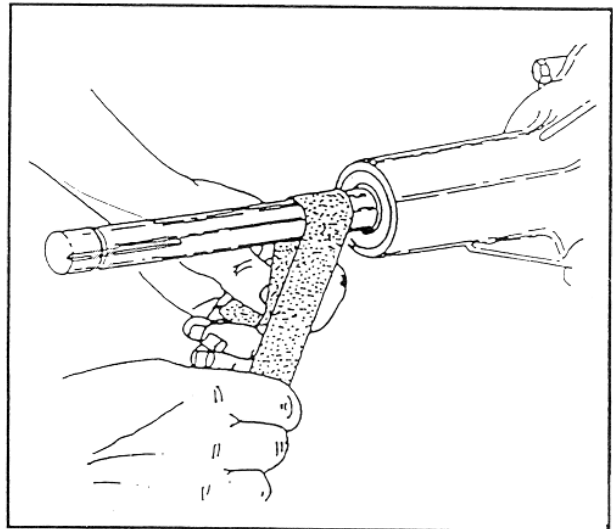

FIGURE 7
- 5.02 Remove (6) self tapping screws (#41) and (2) stud bolts (#11).
- NOTE!** Before pulling housing halves apart, axle shaft ends (#3 and #4) must be free of rust and nicks for ease of disassembly. Do not try to force halves apart before preparation. See figure 7.